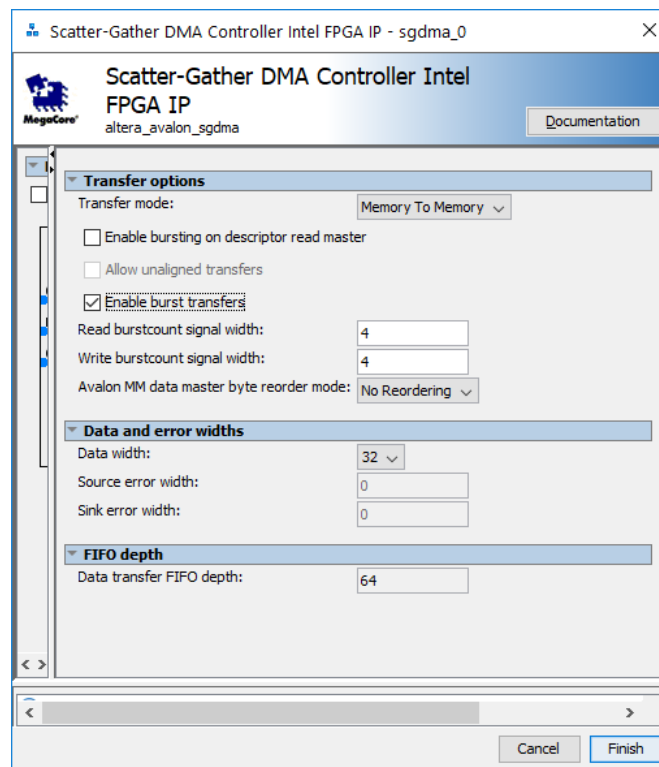

Figure 6. Settings for Scatter-Gather DMA Controller.
- In the Configuration Wizard window, check the checkbox of **Enable burst transfers** and set the **Data width** to 32 as shown in Figure 6.